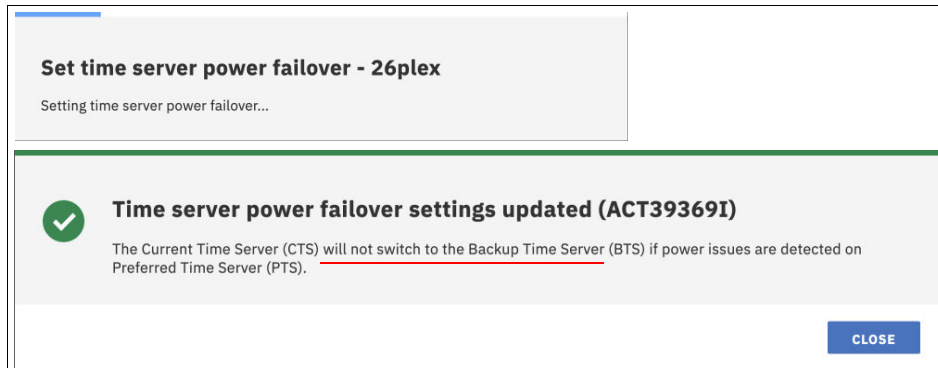

Figure 5-20 Message if servers with roles assigned are not IBM z16 or newer
5. You can click **CONTINUE** to finalize the operation. However, if the servers are not at a supported level, the CTS does not fail over to the BTS, as shown in Figure 5-20.